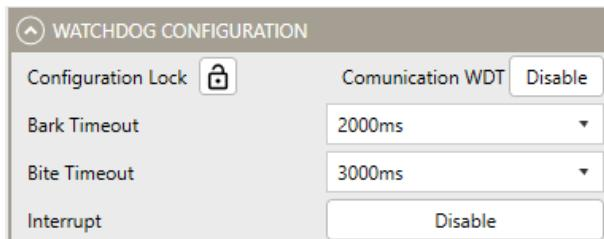

Figure 16: Watchdog Configuration
12. Configure the watchdog (see Figure 16).